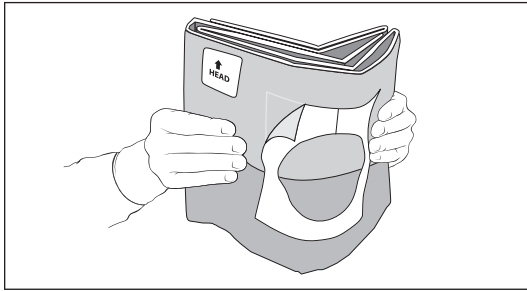

Figure 7
- Peel off fenestration backing (refer to Figure 7).